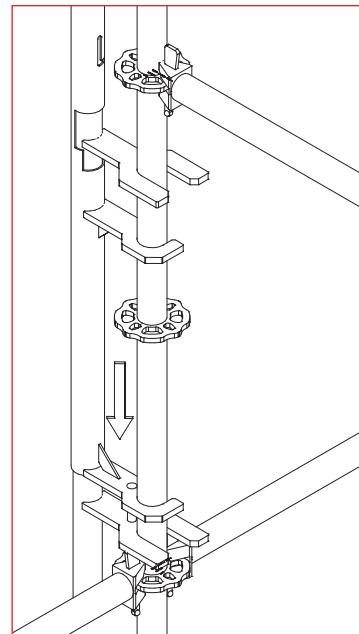

Fig. 3.10
2. By lifting and rotating the post external pipe attach the post to the stand so that the bottom catch leans on the upper railing of the scaffolding (transom) (fig. 3.10).